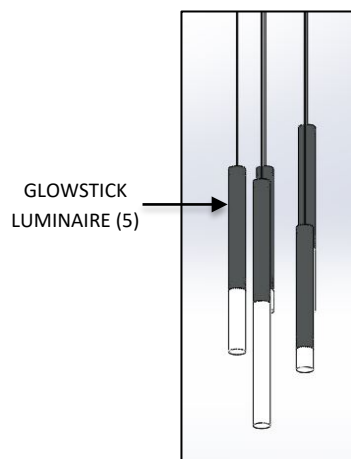

FIG.2 GLOWSTICK LUMINAIRE (PRE-ASSEMBLED)
1. GLOWSTICK LUMINAIRE (5) with CORD attached. (Pre-assembled as shown in FIG. 2)